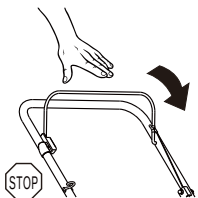

Fig.7
1. To stop the engine, release the brake control bar to stop the engine and blade. (Fig. 7)